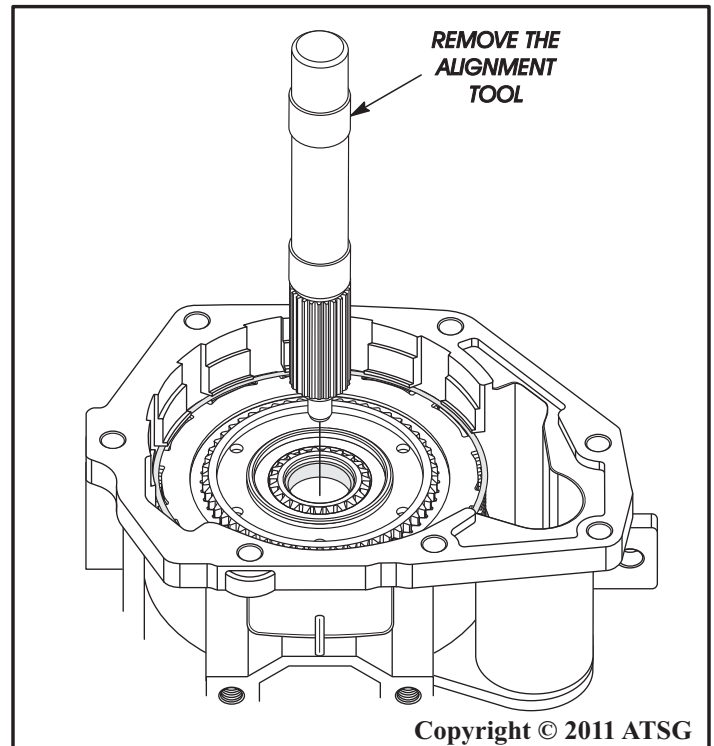

Figure 233
47. It is now time to measure for proper selective intermediate shaft spacer. Set the completed overdrive housing upright on the bench with the blocks used for assembly (See Figure 233).
48. Remove the alignment tool (See Figure 233).